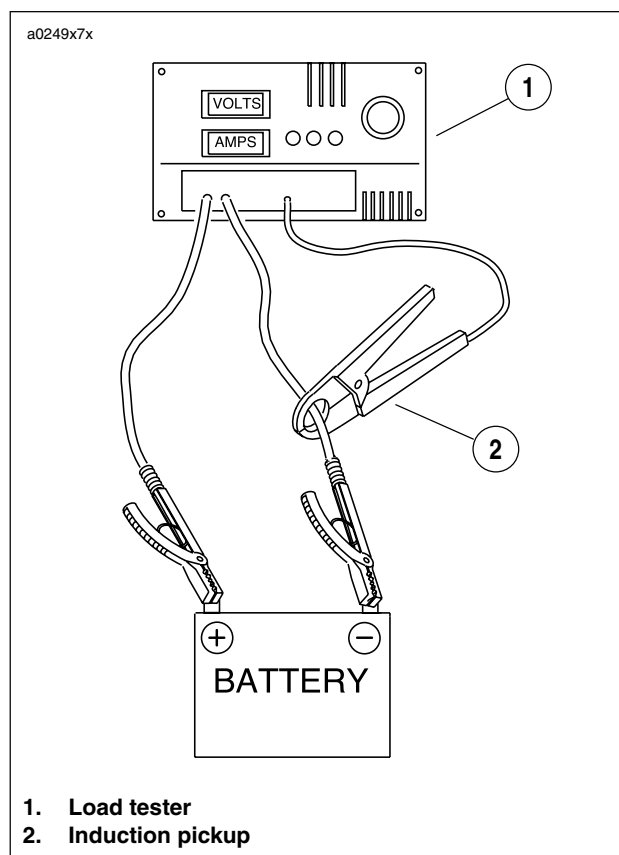

Figure 7-60. Load Test Battery
3. See Figure 7-60. Connect tester leads to battery posts and place induction pickup over negative (black) cable.
4. See Figure 7-60. Load battery at 50% of CCA rating using the load tester. Voltage reading after 15 seconds should be 9.6V or more at 70° F. (21° C).